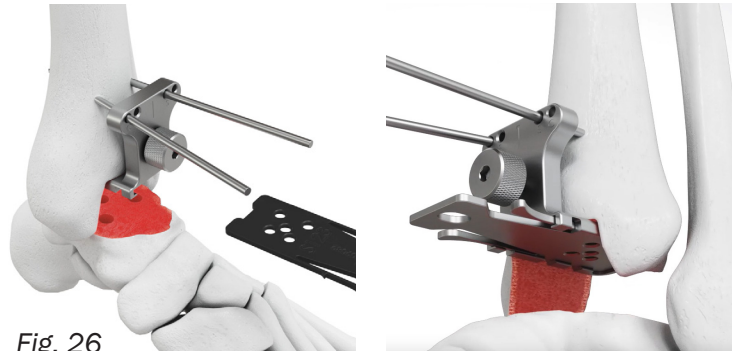

Fig. 26
2.11 Insert the X-Stem Drill Plate into the pinned Tibial Trial until it snap locks into place (Fig. 26).